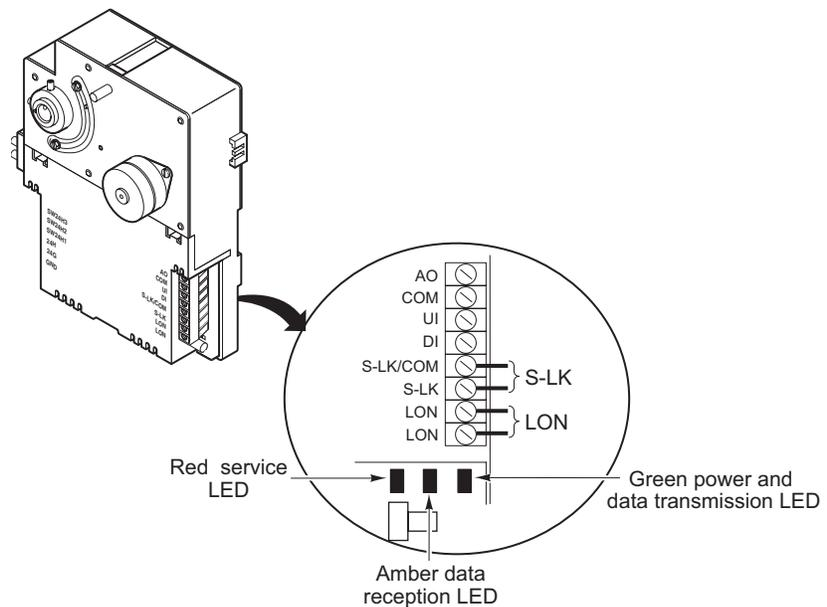

Figure-13 Location of MNL-V1RVx and MNL-V2RVx LEDs.
3. Observe green Data Transmission LED (Figure-13) and do the following:
4. Observe red Service LED (Figure-13) and do the following:
5. If connected to a TAC MicroNet LonWorks network (LON), verify Reception and Transmission LEDs (Figure-13) indicate normal operation. See Table-3.